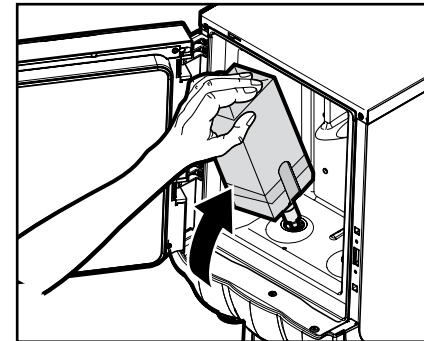

Fig. 17
7. Insert the product pack (fig. 17).